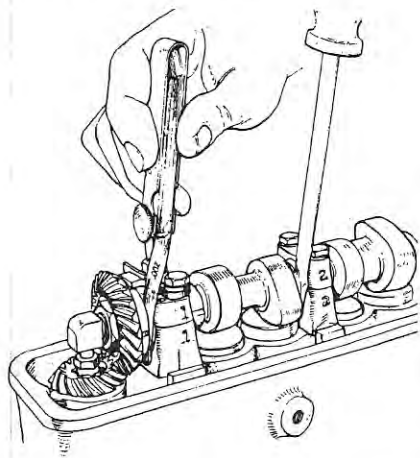

Fig. H14—To check the camshaft end play, take up the slack with a screwdriver as shown, then measure clearance with a feeler gage. Refer to text.
Camshaft end play, and backlash of the upper timing gears is controlled by the selective thickness thrust spacer (22—Fig. H13) which is held in place by the retainer (21). To check the end play after the camshaft cover is removed, insert a screwdriver or other suitable pry between No. 2 camshaft bearing and No. 2 cam lobe as shown in Fig. H14. Use only enough pressure to remove all clearance between camshaft gear and thrust spacer as shown. Clearance should be 0.002-0.0035 and can be adjusted by removing the spacer (22—